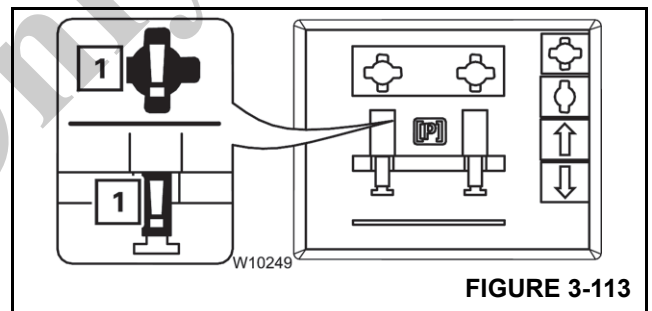

FIGURE 3-113
NOTE: If an error symbol (1) (Figure 3-113) is displayed during subsequent operation, please contact Crane Care.